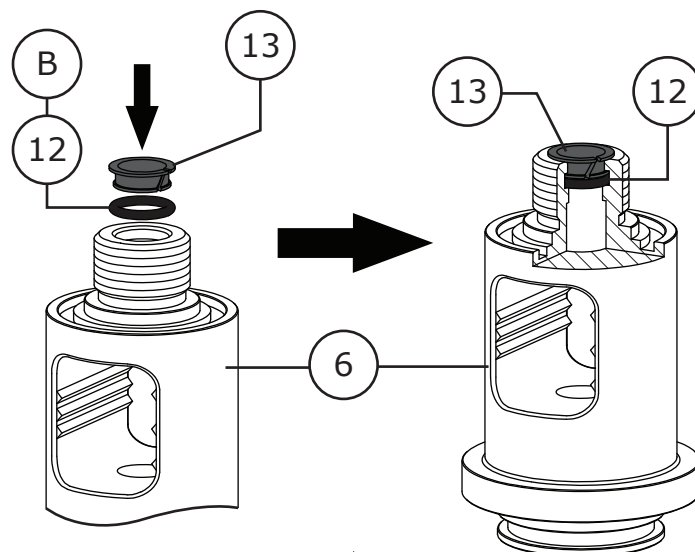

Figure 34 Stem O-Ring/Bushing Installation
- 1 Place the bonnet (Key 6) right side up on a flat work surface. Apply Dow Corning Molykote® 111 (Key B) to the stem o-ring (Key 12) and install it in to the o-ring groove inside the top of the bonnet as shown in Figure 34.
- 2 Install the stem bushing (Key 13) as shown in Figure 34. When installed correctly the stem bushing will 'snap' in to place over the stem o-ring (Key 12).